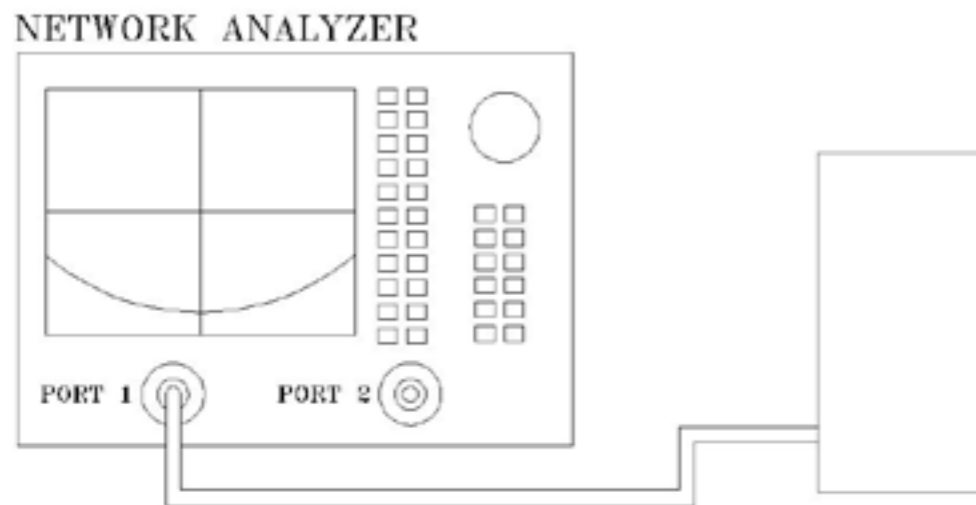

Fig. 1 LTCC chip antenna measured in Network Analyser
- (1) Calibrate the Network Analyzer by one port calibration using O.S.L. calibration kits.
- (2) Connect the antenna under test to the Network Analyzer.
- (3) Measure the S11(reflection coefficient) shown in Fig. 1.
- (4) Generally, the S11 is less than -10dB to ensure the 90% power into antenna and only less than 10% power back to system.